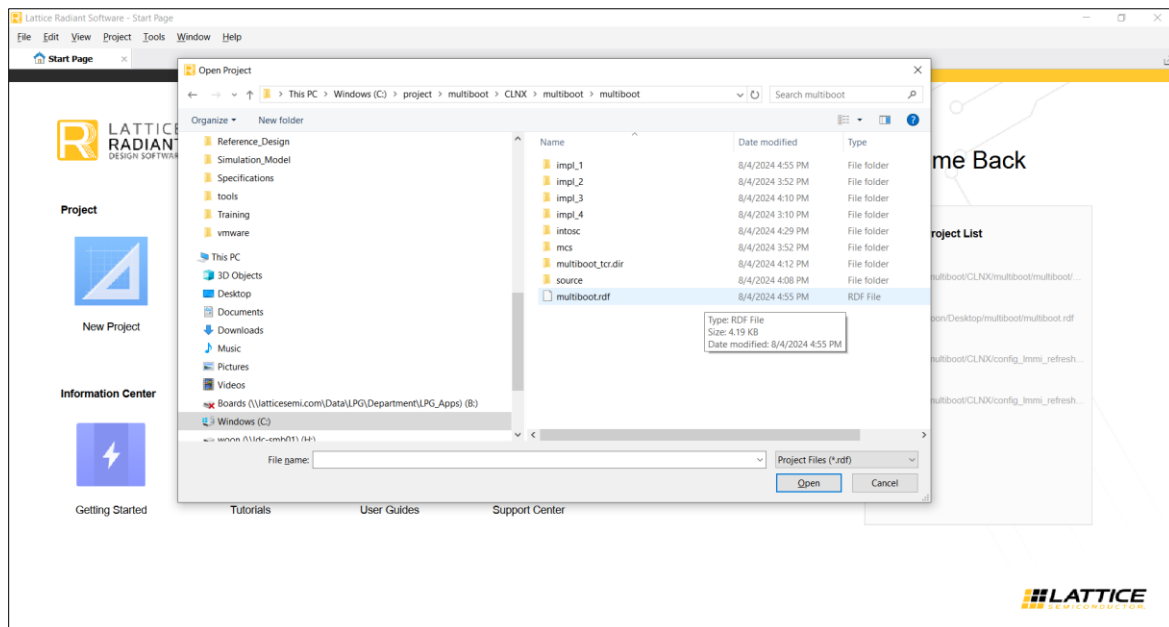

Figure 6.2. Open Project File
- Click **File > Open Project** and from the project database, browse to the reference design project, the multiboot folder, and open the Radiant project file (multiboot.rdf), as shown in Figure 6.2.